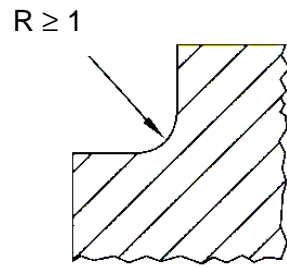

Fig. 1
- ◆ Avoid sharp “internal” corners. The radius of curvature should be at least 1 mm. Refer to figure 1.